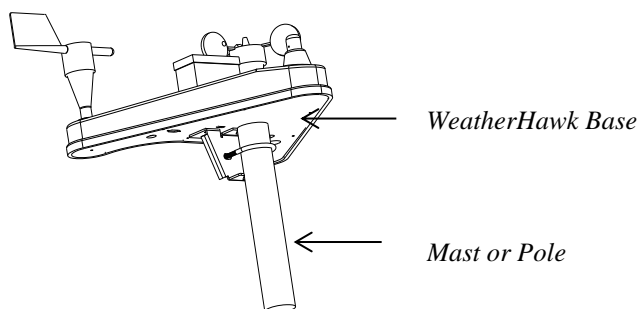

Figure 23: The WeatherHawk assembly properly seated on a mast or pole.
1. Place your WeatherHawk assembly on top of the mast or pole with the base firmly seated on the top edge of the mast or pole (Figure 23).